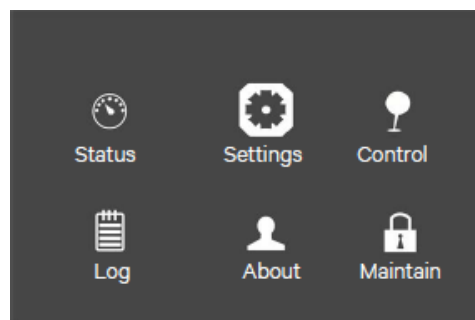

Figure 2-4 Main menu screen
- a) At main menu screen, press the  or  key to select 'Settings', and press the key to enter the interface shown in Figure 2-4.